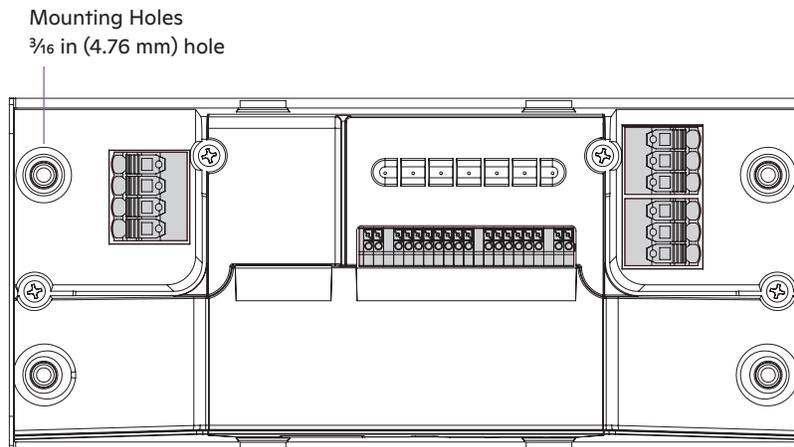

fig. 6
3. Mount box to surface with appropriate fasteners. Note: inner diameter of hole is $\frac{3}{16}$ in (4.76 mm) (see fig. 6).